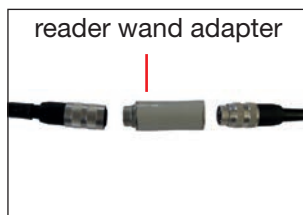

Fig. 2
- Unscrew the reader wand adapter from both connectors by turning counter-clockwise (Fig. 2).